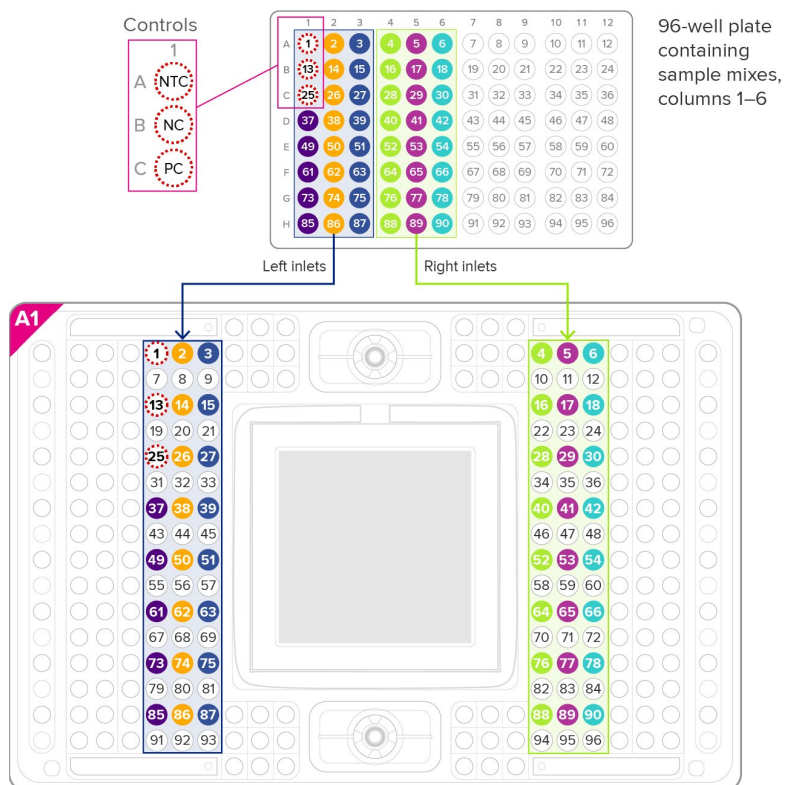

Figure 10. Sample mix pipetting map for sample plate columns 1–6
- 3** Pipet the buffers and RT preamplification mix into the IFC in the following order, as shown in Figure 10.